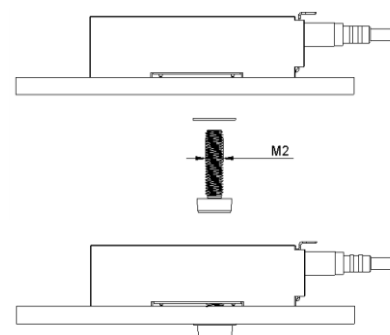

Fig.6 - Mounting from rear side
- screwing from rear side with customer selected fixture (Fig 6)